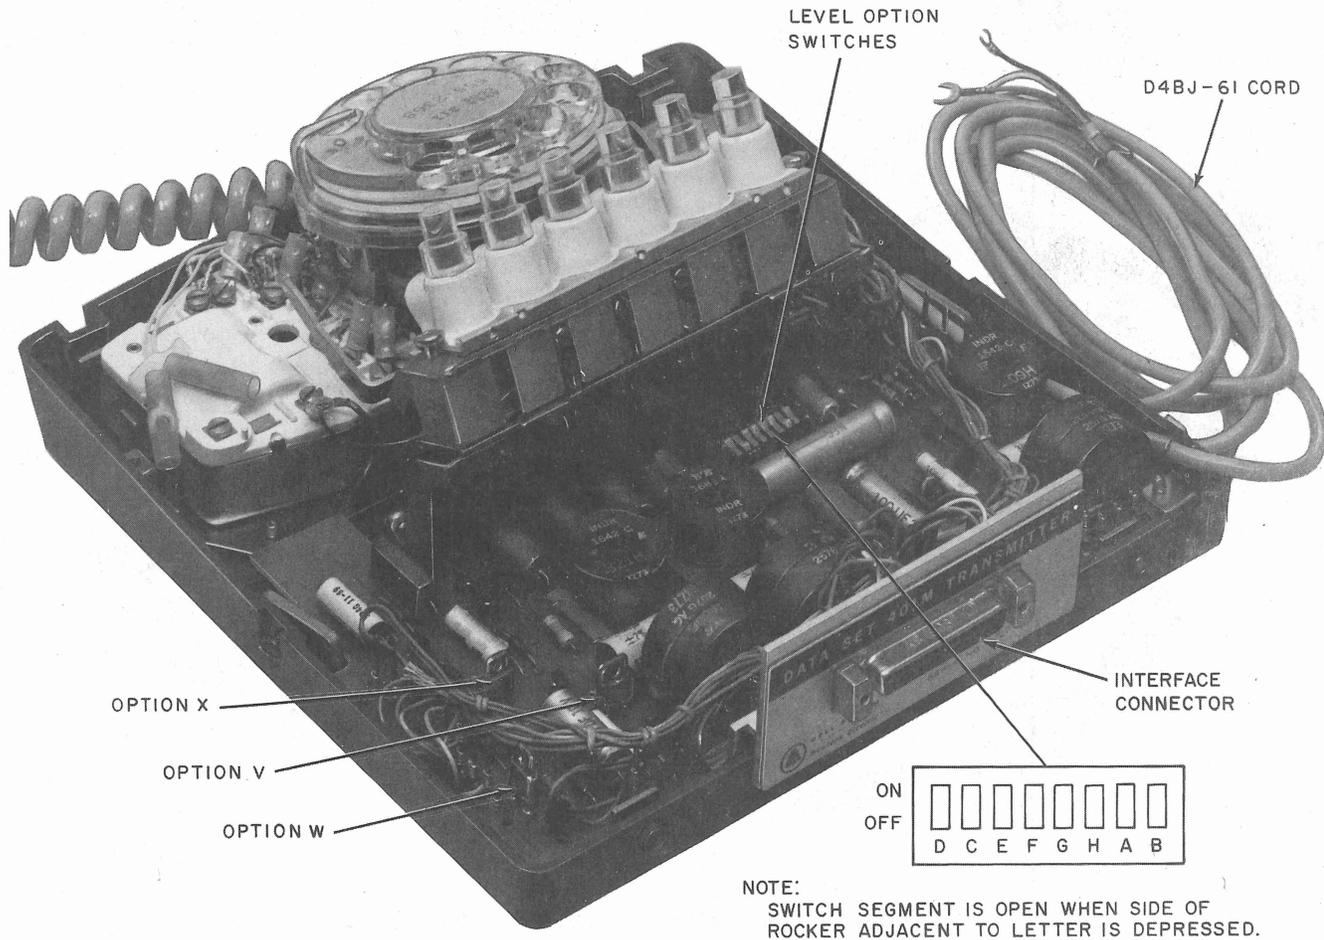

Fig. 3—Data Set 401M-L1B—Option Locations
**2.02** DS 401M-L1B (Fig. 3) is provided with eight level option switches and three removable 2-prong option plugs. The option plugs fit into numbered jacks on the data set. Level options for the sets listed below are incorporated by means of screw switches. DS 401M-L1B provides *rotary dial* service only, and replaces the following data sets:
**2.06** Interface connections are made through a KS-19087-L2 or -L6 connector located at the rear of the data set (Fig. 3). The corresponding plug (Cannon or Cinch DB-19604-432) and connecting cord must be provided by the customer.